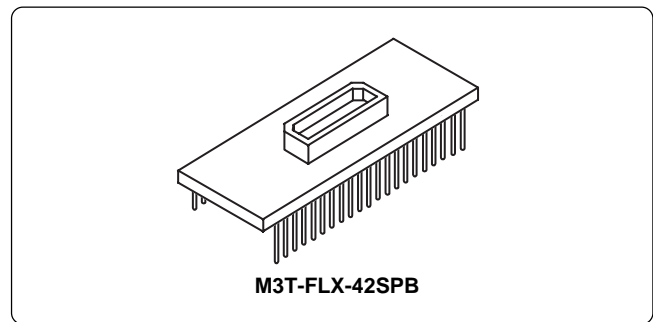

Figure 1 Package component of the M3T-FLX-42SPB
2. Package Components (see Figure 1)